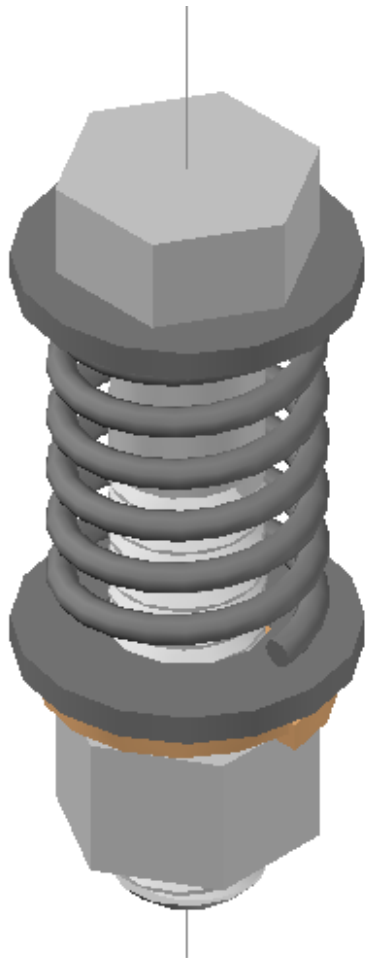

Figure Step 9A
Step 9 Using the centerlines as guide, copy the solid models to create an assembly solid model. After you assemble all the parts, by snapping to the centerlines. Change the current view to Right, the current UCS to Right and with Ortho enabled, move the parts ,by eye, to locate them vertically. (Figure Step 9A and 9B)